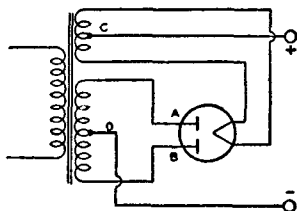

Fig. 77
**Maximum peak inverse plate voltage** is the highest instantaneous plate voltage which the tube can withstand recurrently in the direction opposite to that in which it is designed to pass current. For mercury-vapor tubes and gas-filled tubes, it is the safe top value to prevent arc-back in the tube operating within the specified temperature range. Referring to Fig. 77, when plate A of a full-wave rectifier tube is positive, current flows from A to C, but not from B to C, because B is negative. At the instant plate A is positive, the filament is positive (at high voltage) with respect to plate B. The voltage between the positive filament and the negative plate B is in inverse relation to that causing current flow. The peak value of this voltage is limited by the resistance and nature of the path between plate B and filament. The maximum value of this voltage at which there is no danger of breakdown of the tube is known as maximum peak inverse voltage. The relations between peak inverse voltage, rms value of ac input voltage, and dc output voltage depend largely on the individual characteristics of the rectifier circuit and the power supply. The presence of line surges or any other transient, or wave-form distortion may raise the actual peak voltage to a value higher than that calculated for sine-wave voltages. Therefore, the actual inverse voltage, and not the calculated value, should be such as not to exceed the rated maximum peak inverse voltage for the rectifier tube. A calibrated cathode-ray